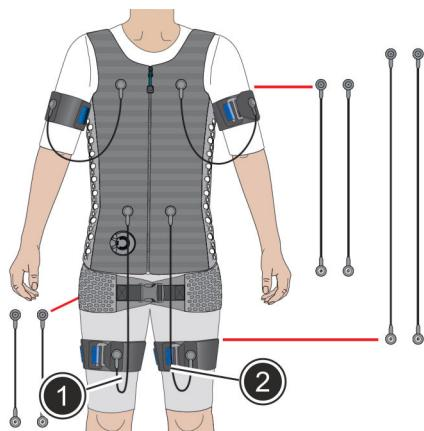

Fig. 47: Connecting the i-body® straps flex
19. ► Connect both i-body® straps flex to the i-body® (Fig. 47/1 and 2) with the i-body® cable.
*i When connecting the i-body® straps flex, always ensure that the corresponding cables (longest length) are used, in accordance with Fig. 47.*
*i When connecting the i-body® belt, always ensure that the corresponding cables (shortest length) are used, in accordance with Fig. 47.*